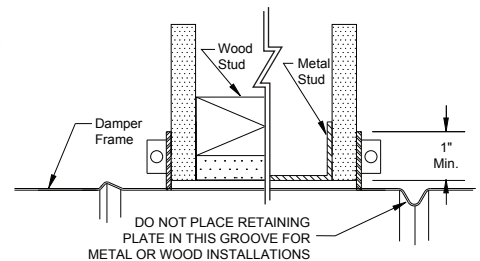

Figure 3 — Wall Opening
- a. Frame wall opening as shown in Figure 3.